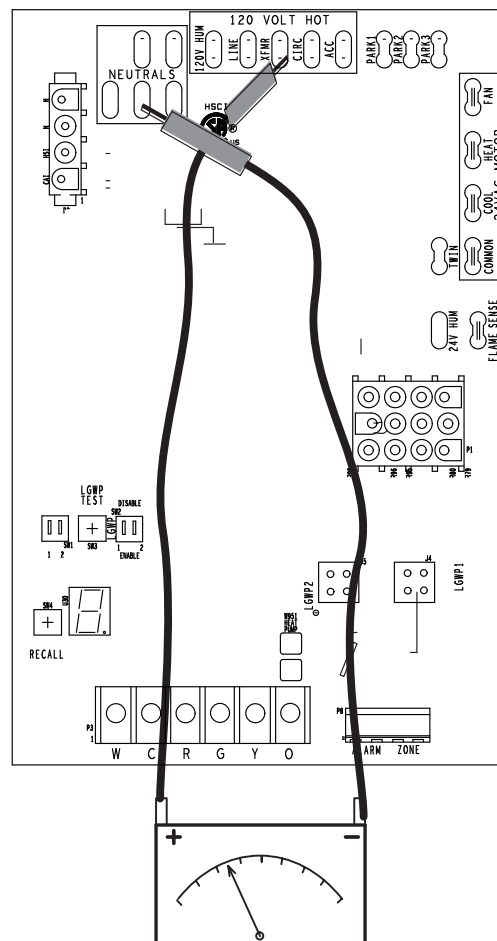

Figure 22. Check Voltage Between Line Hot and Line Neutral
2. In addition, measure the AC voltage from Line Hot to Line Neutral (spade terminals) on the integrated control. See **Figure 22**. This voltage should be in the range of 97 to 132 VAC.